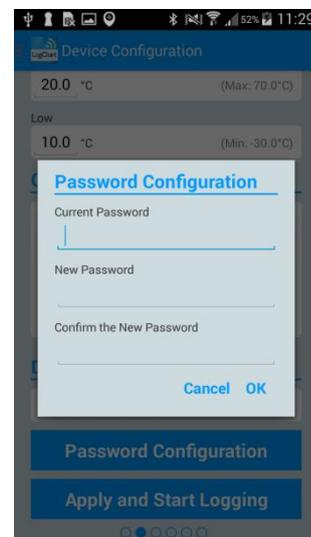

Fig. 08 – Password Configuration Screen
**Note:** Fig. 08 shows the screen to change the password.